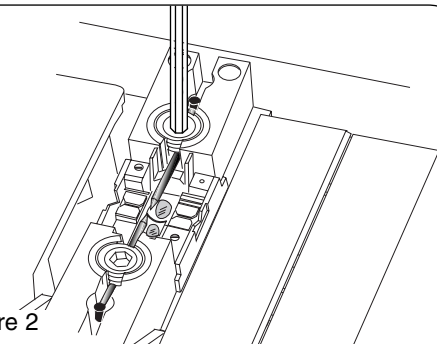

Figure 2
3. Use the electrode hex wrench to loosen the set screws that secure the electrodes by approximately one revolution each (Figure 2).